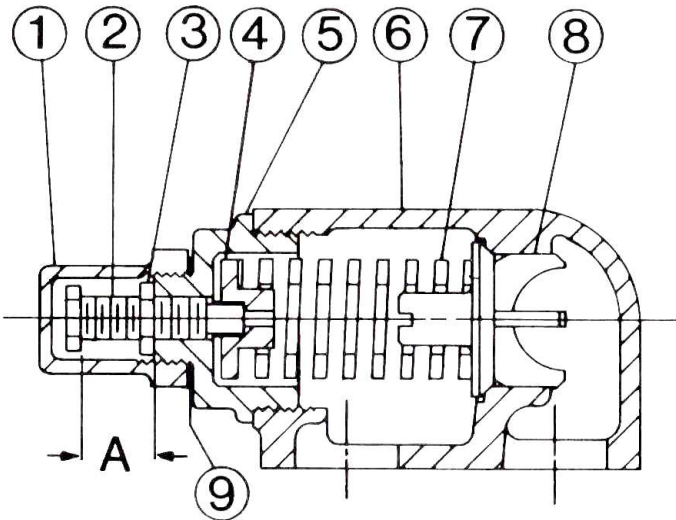

FIGURE 15
2. Measure and record length of extension of adjusting screw. Refer to "A" on Figures 15 and 16.